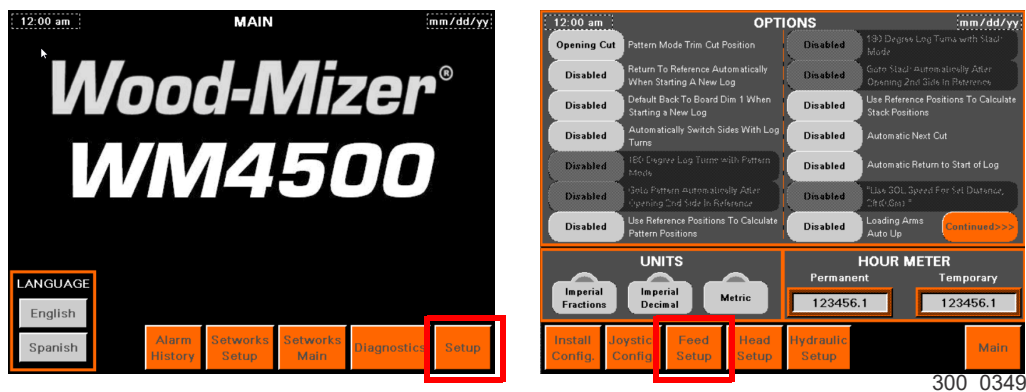

FIG. 4-26
See Figure 4-26.
1. From the Main screen press the Setup button. See Figure 4-26.
2. On the Setup screen press the Feed Setup button. See Figure 4-26.